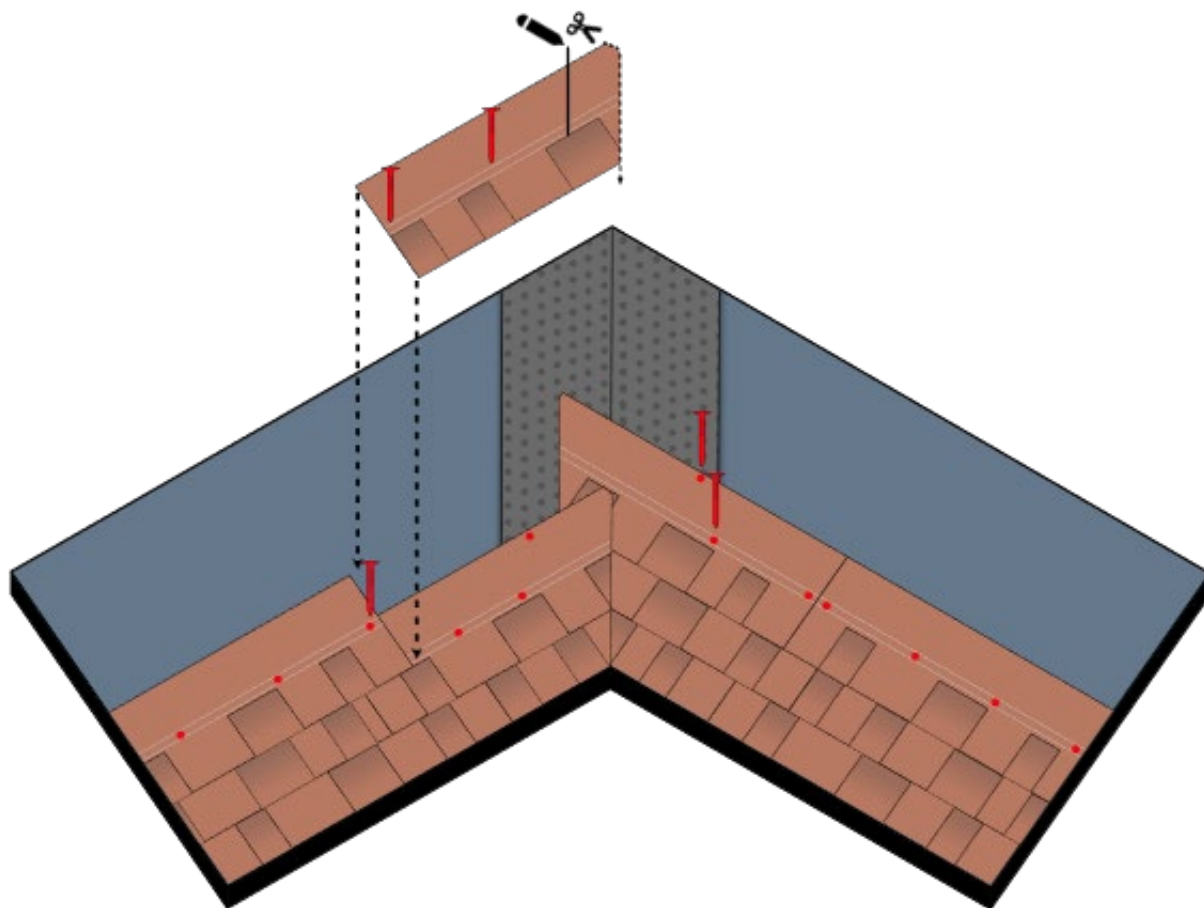

Fig. 16 - Shingles installation at valleys
- Cross-cut the top edge of the shingle to the valley – Fig. 16, so as to convey the descending water along the axis of the valley. Lift the shingles one at a time and fix them by torch to the membrane below. Where you come to the gritty shingle of the first pitch, apply Bitustick to the lower part to fix it – Fig. 16.